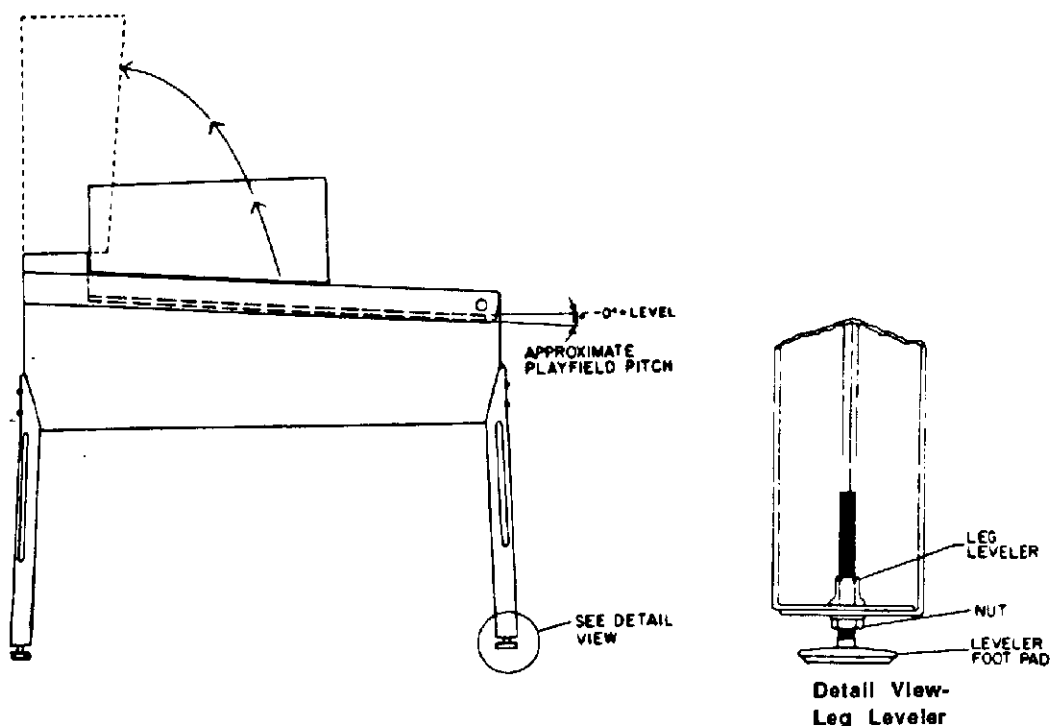

Figure 1. Pinball Assembly, Playfield Pitch Angle, and Leg Leveler Details.
2. After finding the legs, install a leg leveller in the base of each leg. (See Figure 1, detailed view.) Leg levellers and leg bolts are provided among the parts in the cash box.
7. Remove the cabinet from its support and place it on the floor. Remove the playfield cover glass to permit accurate measurement of the playfield level and pitch. Level (side-to-side) the playfield (preferably measured ON the playfield surface), and firmly tighten the nut on each leg leveler shaft to maintain this level setting, as shown in Figure 1.